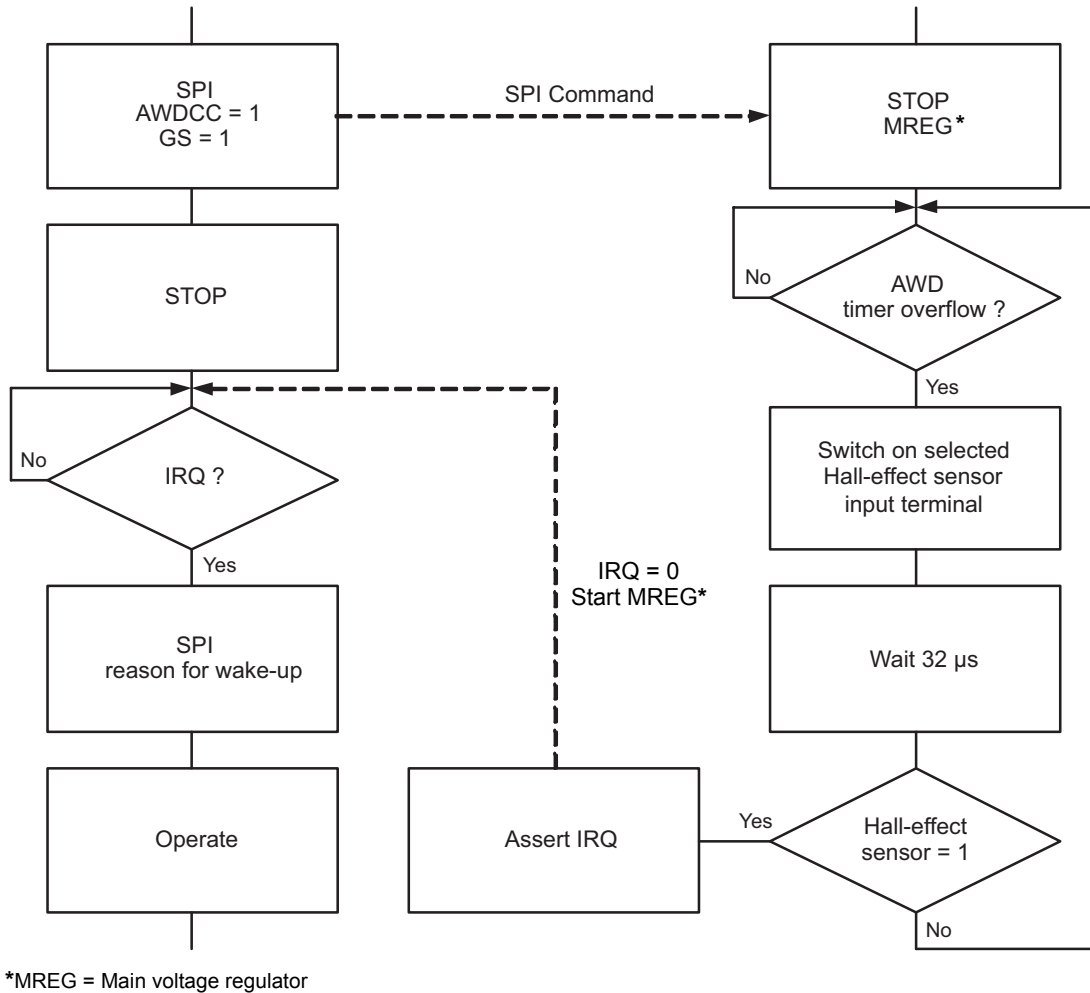

Figure 16. Hall-Effect Sensor Input Terminal Cyclic Check Wake-Up Feature
- The cyclic wake-up of the AWD is enabled (AWDCC = 1) (see Figure 16, page 27).